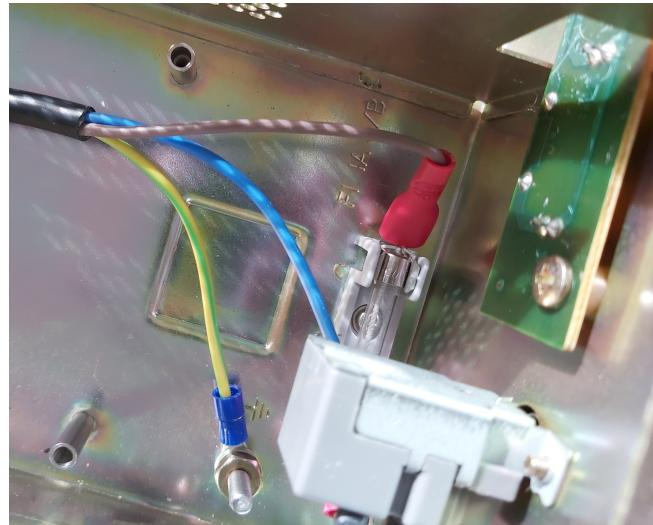

Figure 5.3: Connect the Ground (green) and Live (brown) wires.
4. Firmly push the spade connector onto the fuse holder terminal. Loop the ring connector over the vertical ‘ground’ post and secure it in place with a nut (as shown in Figure 5.3). Note that the fuse itself does *not* need to be replaced.